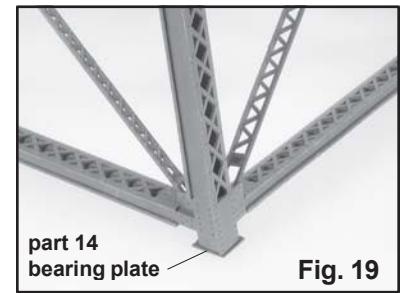

Fig. 19
- 19.** Cement the **bearing plates part (14)** to the bottom of the tower. Position the bottom bearing plates against the bottom of the bents, centered on the four sides of the bent leg. See fig. 19. File or sand the bottom edges of the bent legs, if necessary, so the bearing plates sit level.